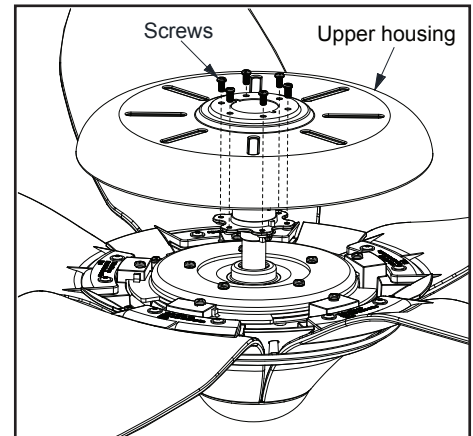

Figure 10
4. Put the upper housing on to the fan motor assembly, then install the screws. (Figure 10)